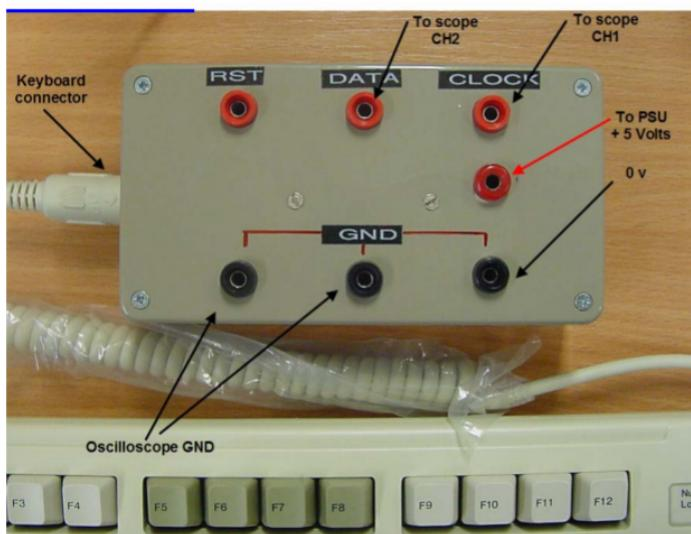

Figure 12.
- Make all the connections between the AT keyboard and the break out box as shown in Figure 12.